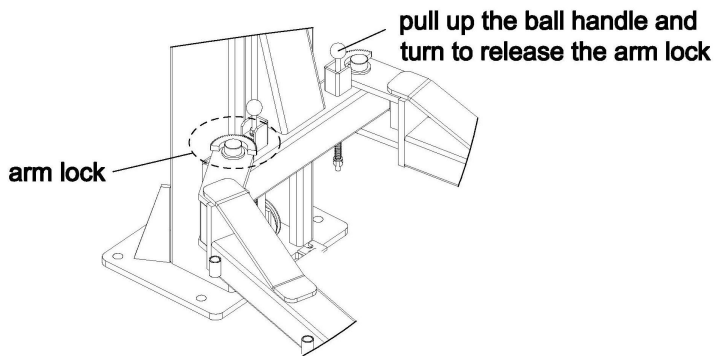

Fig 11
Step10: Install lifting arms. (Fig 11)